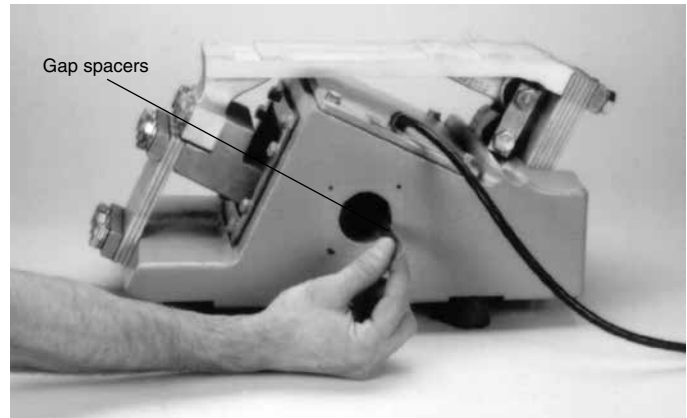

FIGURE 4
Refer to the Parts List Drawing and Figs. 4, 5, 6 & 7.
1. Remove both nameplates and insert the two gap spacers (furnished with the unit) between the E-frame center leg and the two armature pole pieces (see Figure 4 & 5).